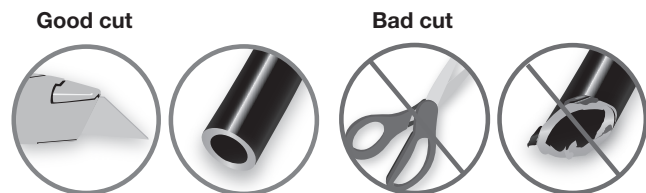

Fig. 25
2. Cut the air line in half. Make clean, square cuts with a razor blade or hose cutter (Fig. 25). Do not use scissors or wire cutters.